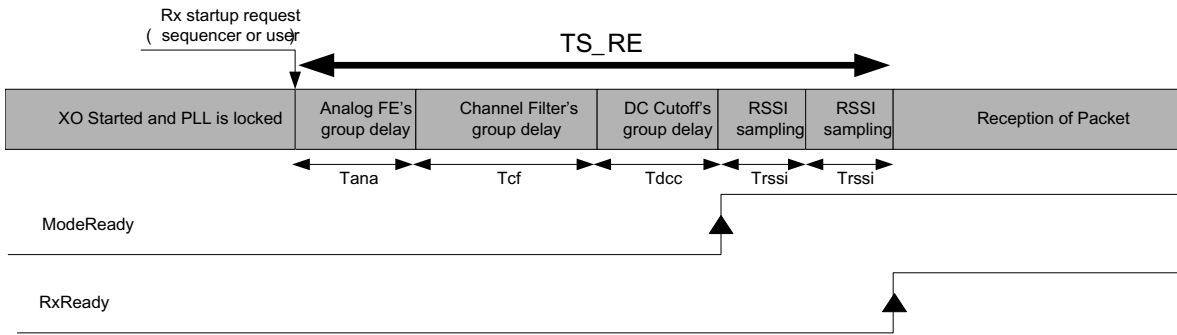

Figure 5-2. Rx Startup - No AGC, no AFC
- In Continuous mode - the preamble bits preceding the payload can be applied on the DIO2/DATA pin immediately after any of these interrupts have fired. The DCLK signal, activated on pin DIO1/DCLK can also be used to start toggling the DATA pin, as described on Figure 5-2.